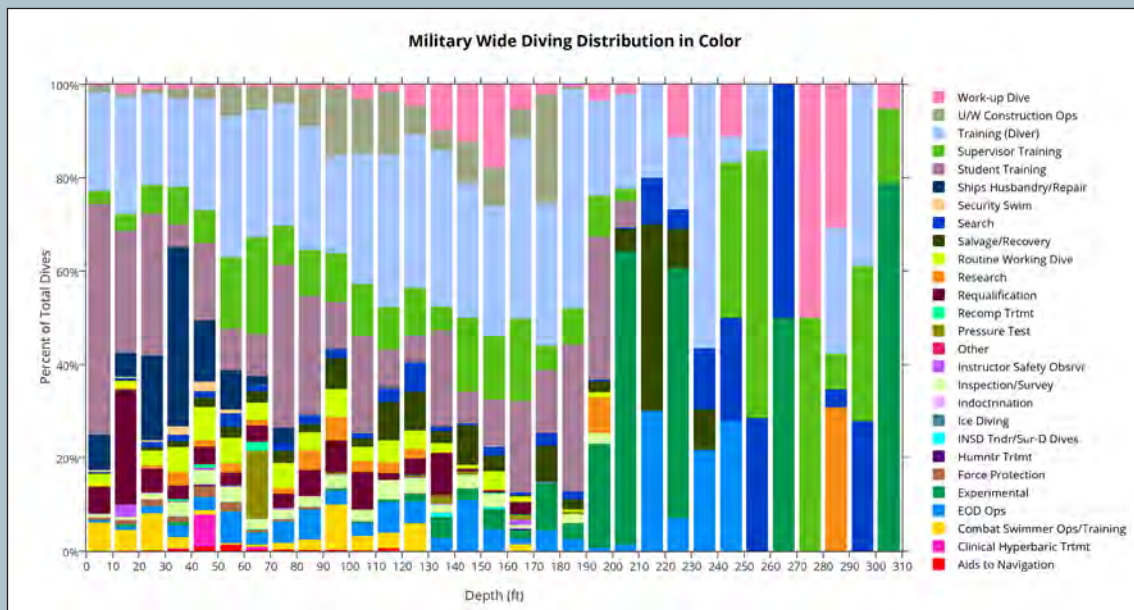

Figure 2
Figures 2 and 3 illustrate “how” the military dives. DJRS broke down each documented dive by job type, tagging each entry with a general “Dive Description.” Each bin is normalized to the total number of dives within the given depth bin. Figure 2 illustrates a group normalized percentage for each given dive type. For example, between 260 and 269 feet, 50% of time was spent on Experimental Testing, and the other 50% was spent on Search. Most depth bins are dominated by training. Training (Diver), Supervisor Training, and Student Training represent 57% of all diving depths less than 190 feet. Interesting things to see: (1) The community spends a considerable amount of time on Experimentation, specifically at deeper depths; (2) Pressure Testing for dive candidates and Recompression treatments make an appreciable appearance in the 60 foot depth bin; and (3) Requalification dives are generally very shallow (10-19 feet).